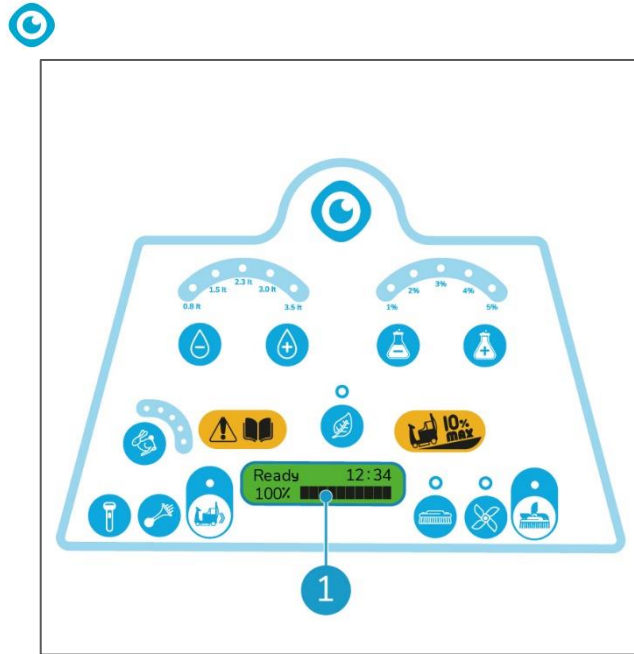

Figure 17
8. Wait a few seconds. The display should indicate 100% and all 10 bars of the battery level display should be visible (Figure 17, pos 1).